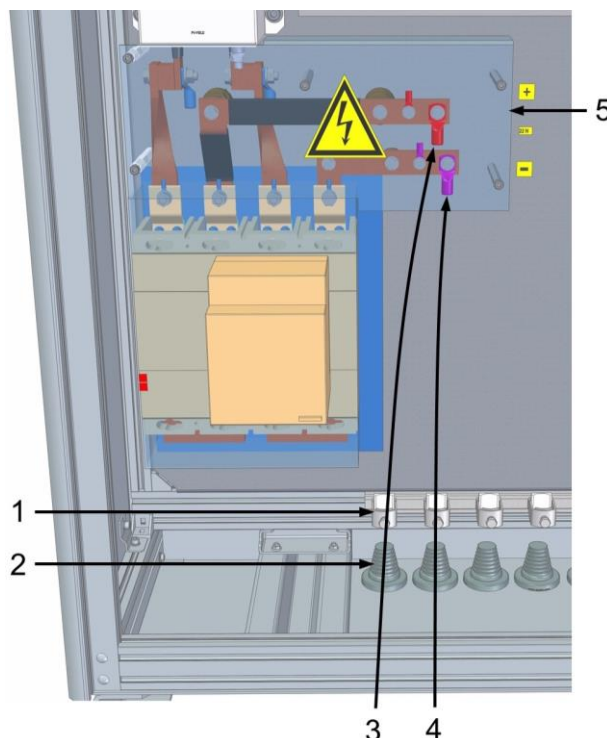

Figure 13: DC connection
1. **Remove** the protective cover (Figure 13).